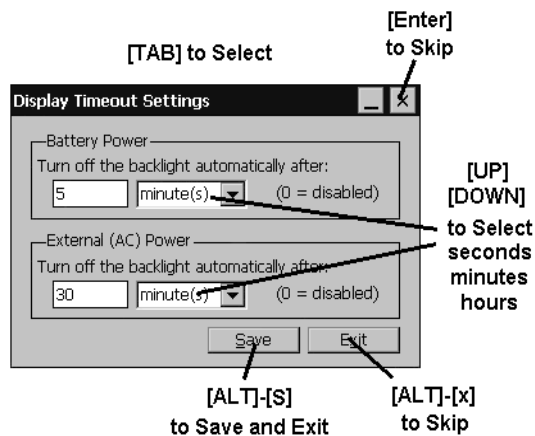

Figure 4-17: Display Timeout Settings Window
The Set Backlight selection displays the Display Timeout Settings window shown in Figure 4-17, below. The window is divided into the 'Battery Power' and the 'External (AC) Power'. You can change the default settings, or enter '0' in each field to keep the backlight turned on all the time.